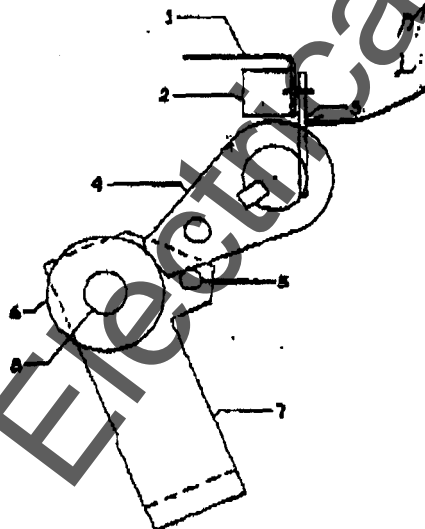

Figure 13 (0114C5320) Latch Checking Switch
Refer to Figure 13. Charge the closing springs sufficiently to reset the mechanism linkage. Rotate the trip latch (4) by pressing the manual trip lever to open the latch checking switch (2). Allow the trip latch to reset slowly and determine the point at which the contacts are made by using a circuit continuity tester (light indicator, bell set, etc). The contacts of the latch checking switch should just make when the gap between the trip latch (4) and the stop pin (6) located on the latch roller link (7) is $1/16"$. There should be a minimum of $1/64"$ between the switch arm (3) and the switch support (1). To obtain adjustment of the latch checking switch, bend the latch checking switch arm (3).